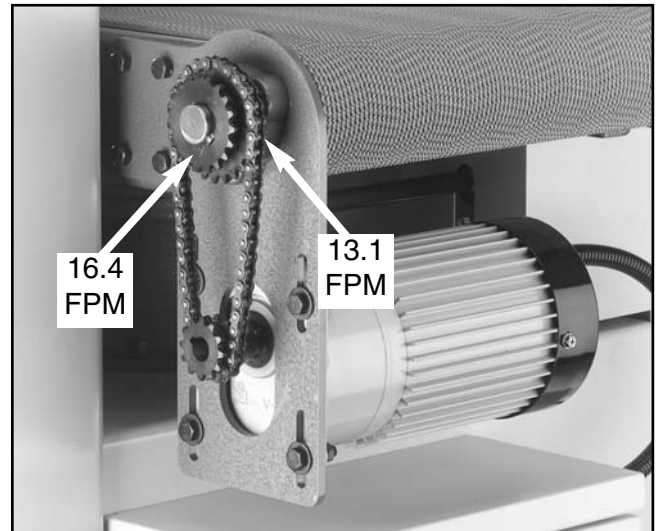

Figure 15. This is the feed belt motor. Place the chain on either of the sprockets and the feed belt will travel at the speed shown.
The feed belt motor (shown in **Figure 15** with the cover removed) controls the speed of the feed belt. The Model G9983 features speeds of 13.1 FPM and 16.4 FPM.
4. Determine which speed is best for your application and place the chain on either set of the sprockets shown in **Figure 15**.